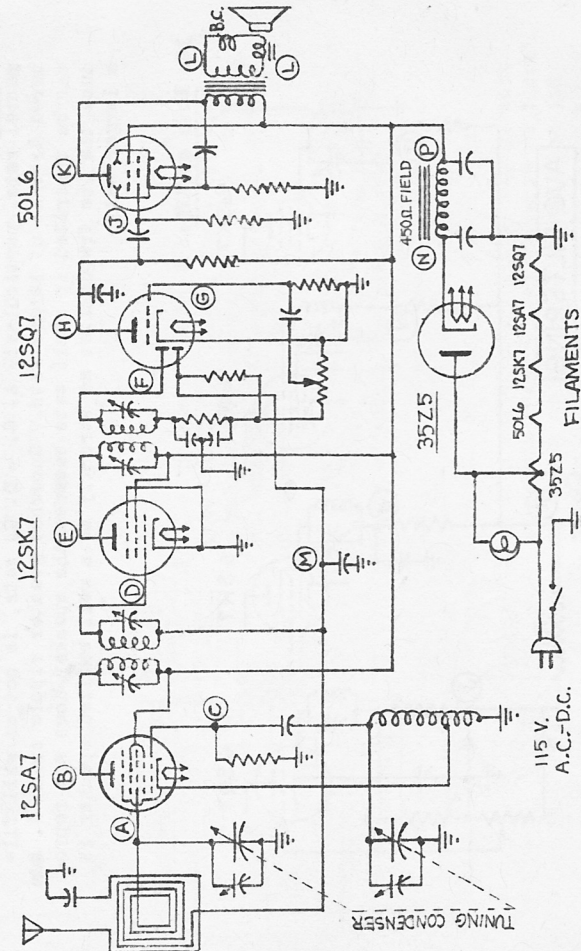

FIGURE 2. TYPICAL SMALL A.C.-D.C. SUPERHETERODYNE CIRCUIT.
19. In Figure 2 is shown a typical small A. C. - D. C. superheterodyne receiver circuit. The usual check points are indicated by the circled letters. Testing with the Signal Tracer follows the same general procedure as in the circuit of Figure 1.